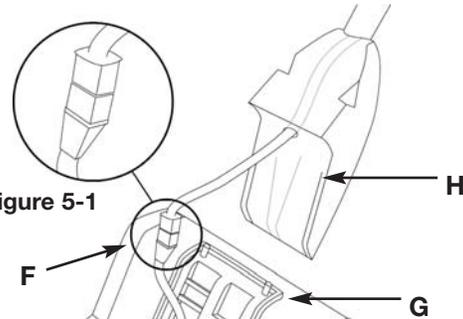

Figure 5-1
2. Pull the power base connector (F) out of the power base (G). Push to snap together the connector on the handle support to the power head's connector; only one position is possible, and they should fit without forcing (Figure 5-1).